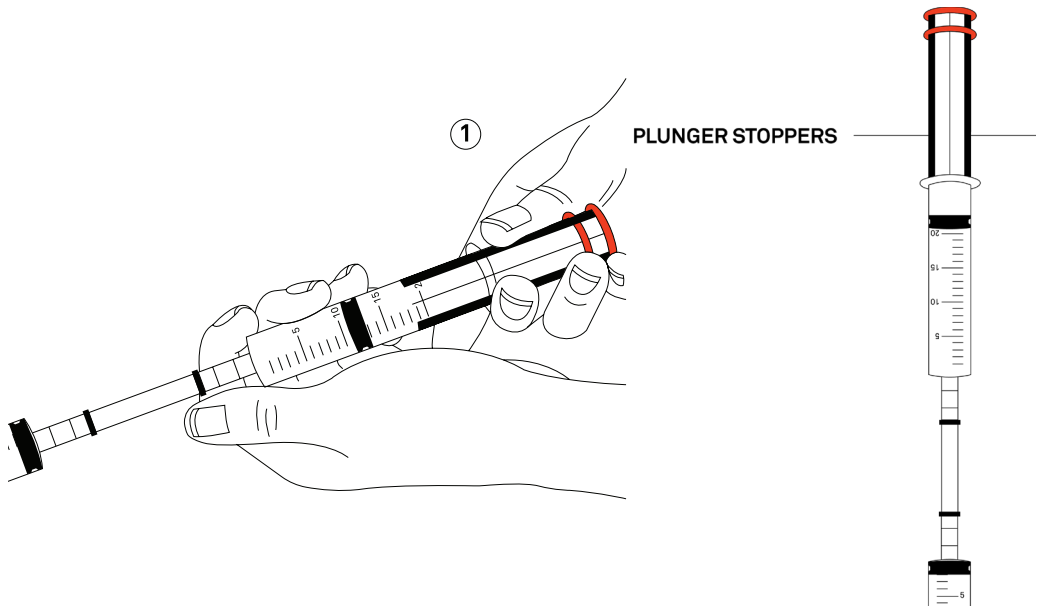

Figure 22 Let the plunger stoppers snap
17. Pull on the plunger of the vacuum syringe until the plunger stoppers snap (Figure 22).